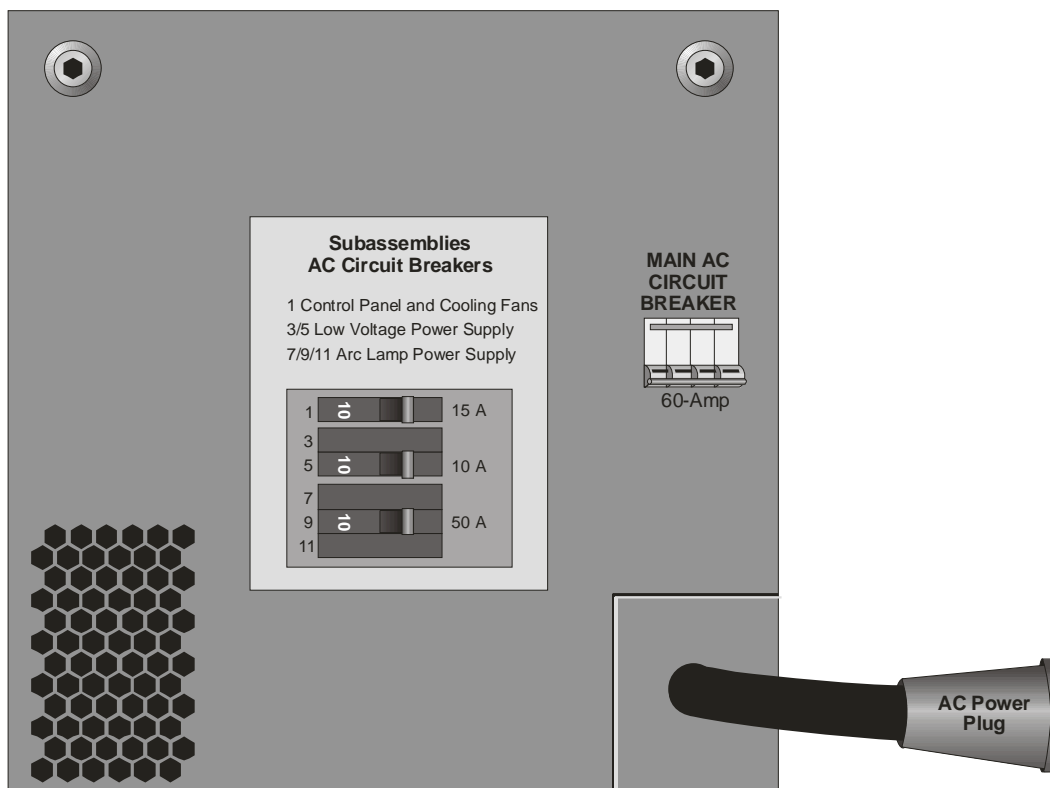

Figure 6-4 Projection Module front panel showing AC Circuit Breakers
1. Set the Main AC Circuit Breaker on the front panel of the projector to ON. Nothing should happen at this point (*see Figure 6-4*).